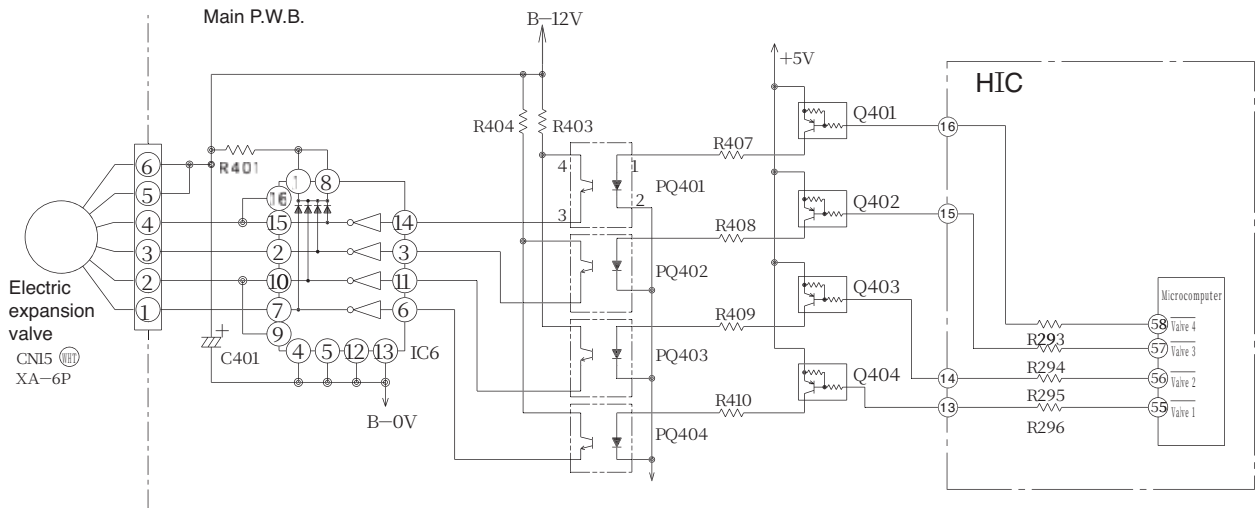

Fig. 3-1
- The relation between the conducting phase switching direction and open/close direction is as shown below. When the power is turned on, approx. 0.9 V is applied to CN15 pins ① to ④; when no power is supplied, approx. 12 V is applied. When the power is reset, expansion valve performs initial operation for 5 to 10 seconds. During initial operation, measure pins ① to ④ of CN15 using multimeter: If no change is found around 0.9 V or 12V, expansion valve or microcomputer is defective.
- Fig. 3-1 shows logic waveform during the operation of expansion valve.